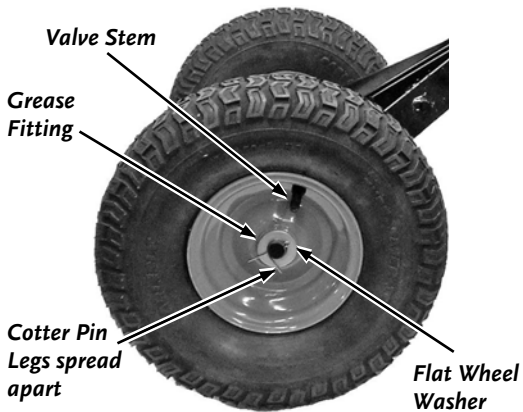

Figure 5
6. Slide a Wheel onto each Axle making sure that the Valve Stem is to the outside (**Figure 5**).